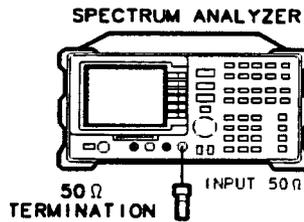

Figure 3-22. Residual Response Test Setup
1. Connect the termination to the analyzer's input as shown in Figure 3-22. *Option 001:* Use the 75 Ω termination with the adapter, skip steps 2 through 4, and proceed with step 5.